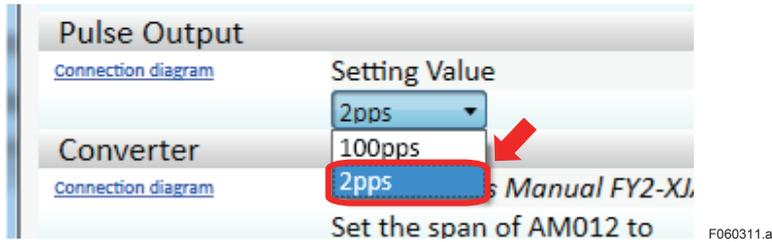

Figure 6.3.11 “Setting Value” in “Active Pulse Output”
- 2) Select “2 pps” in “Setting Value”. See **Figure 6.3.11**.